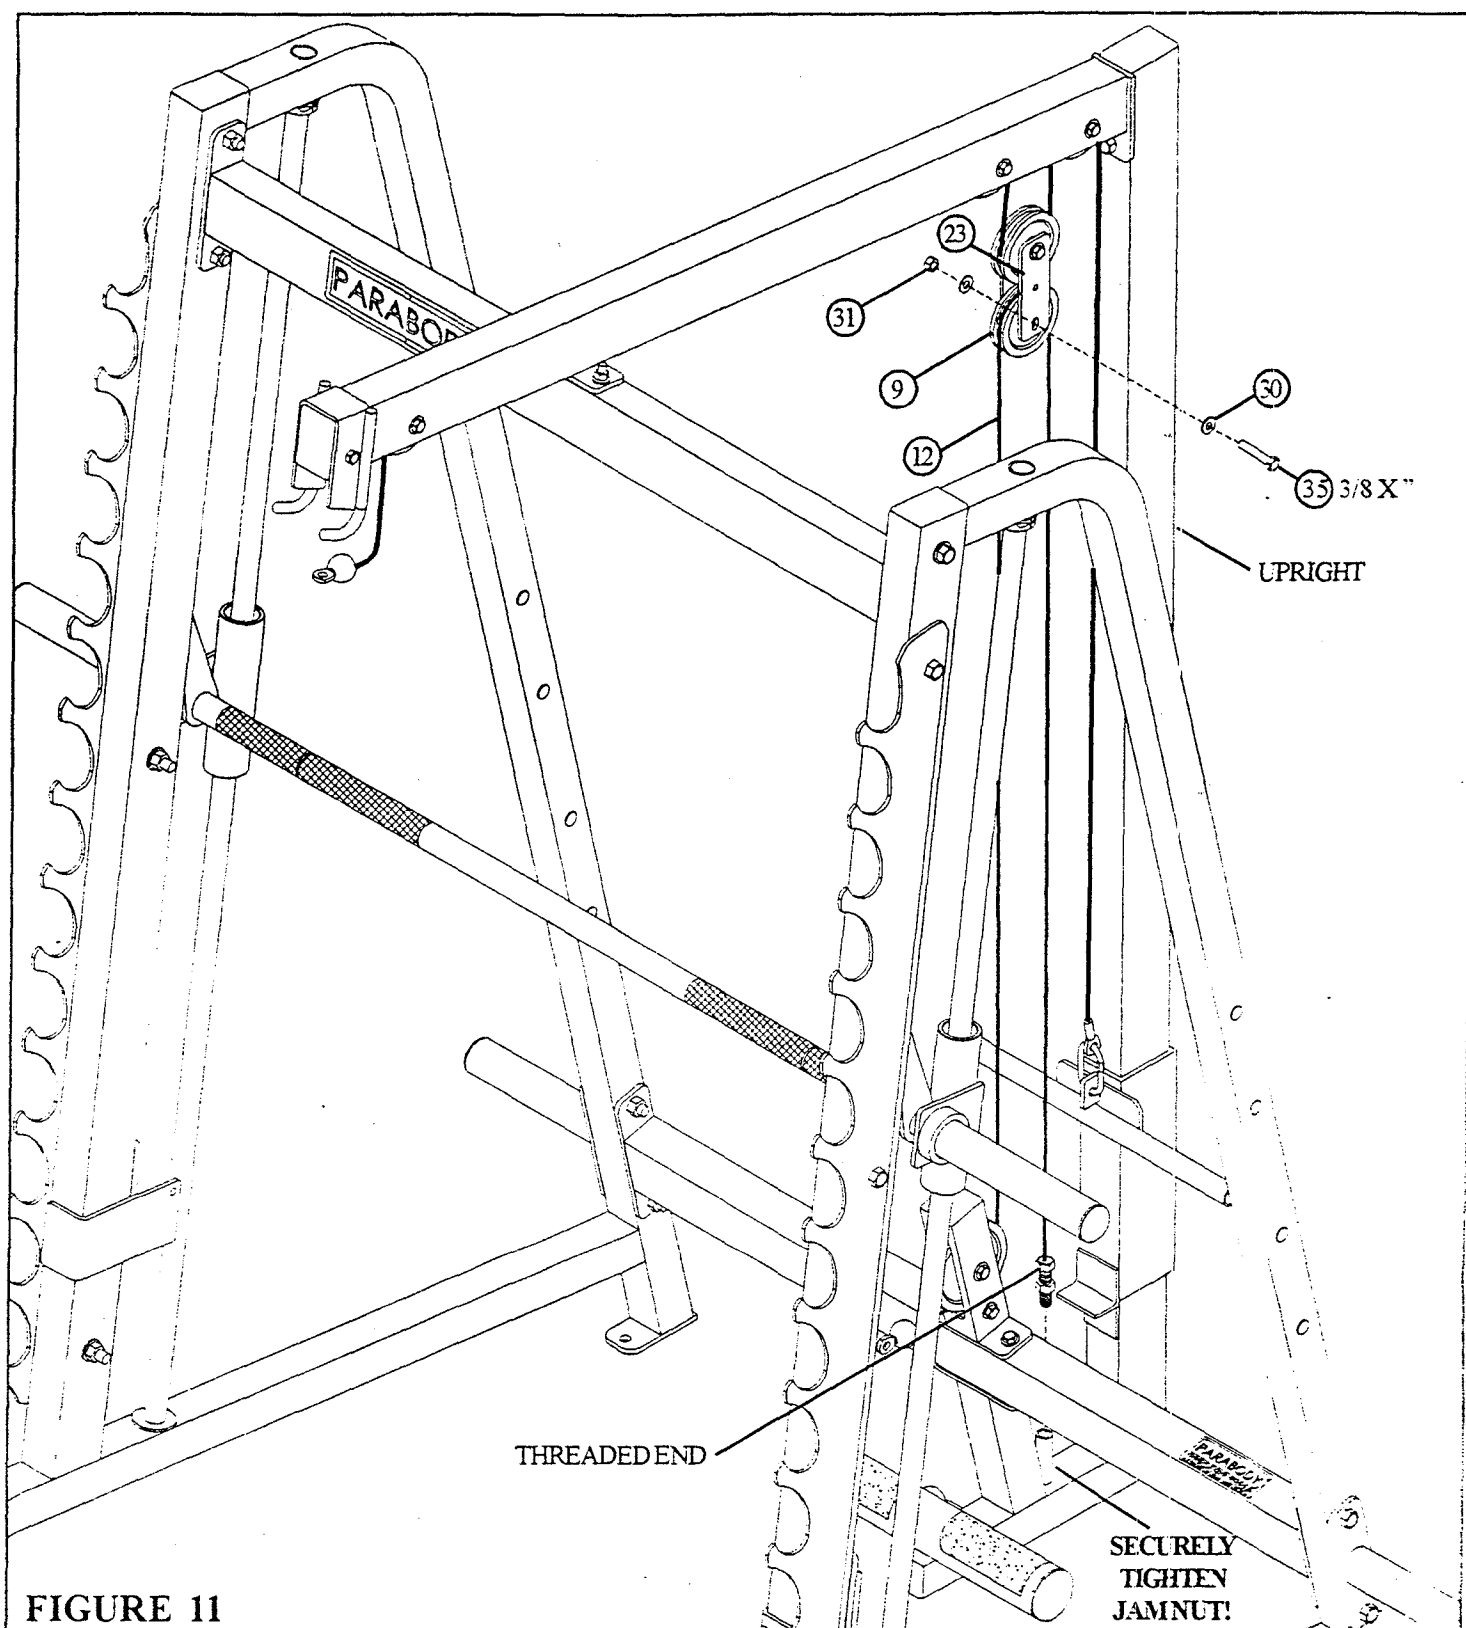

FIGURE 11
- Loop the 121-3/4" CABLE (12) around one 3-1/2" PULLEY (9) as shown in FIGURE 11.
- **LOOSELY** assemble the 3-1/2" PULLEY (9) to the 3/16 X 1-3/4 X 5-1/4" PLATES (23) using one 3/8 X 2" BOLT (35), two 3/8" WASHERS (30), and one 3/8" LOCK NUT (31). See FIGURE 11.
- **SECURELY** thread the end of the 121-3/4" CABLE (12) 3/4 of the way into into the threaded housing on the UPRIGHT and **SECURELY** tighten jam nut.
- **SECURELY** tighten the two 3/8 X 2" BOLTS (35) of the 3/16 X 1-3/4 X 5-1/4" PLATES (23).